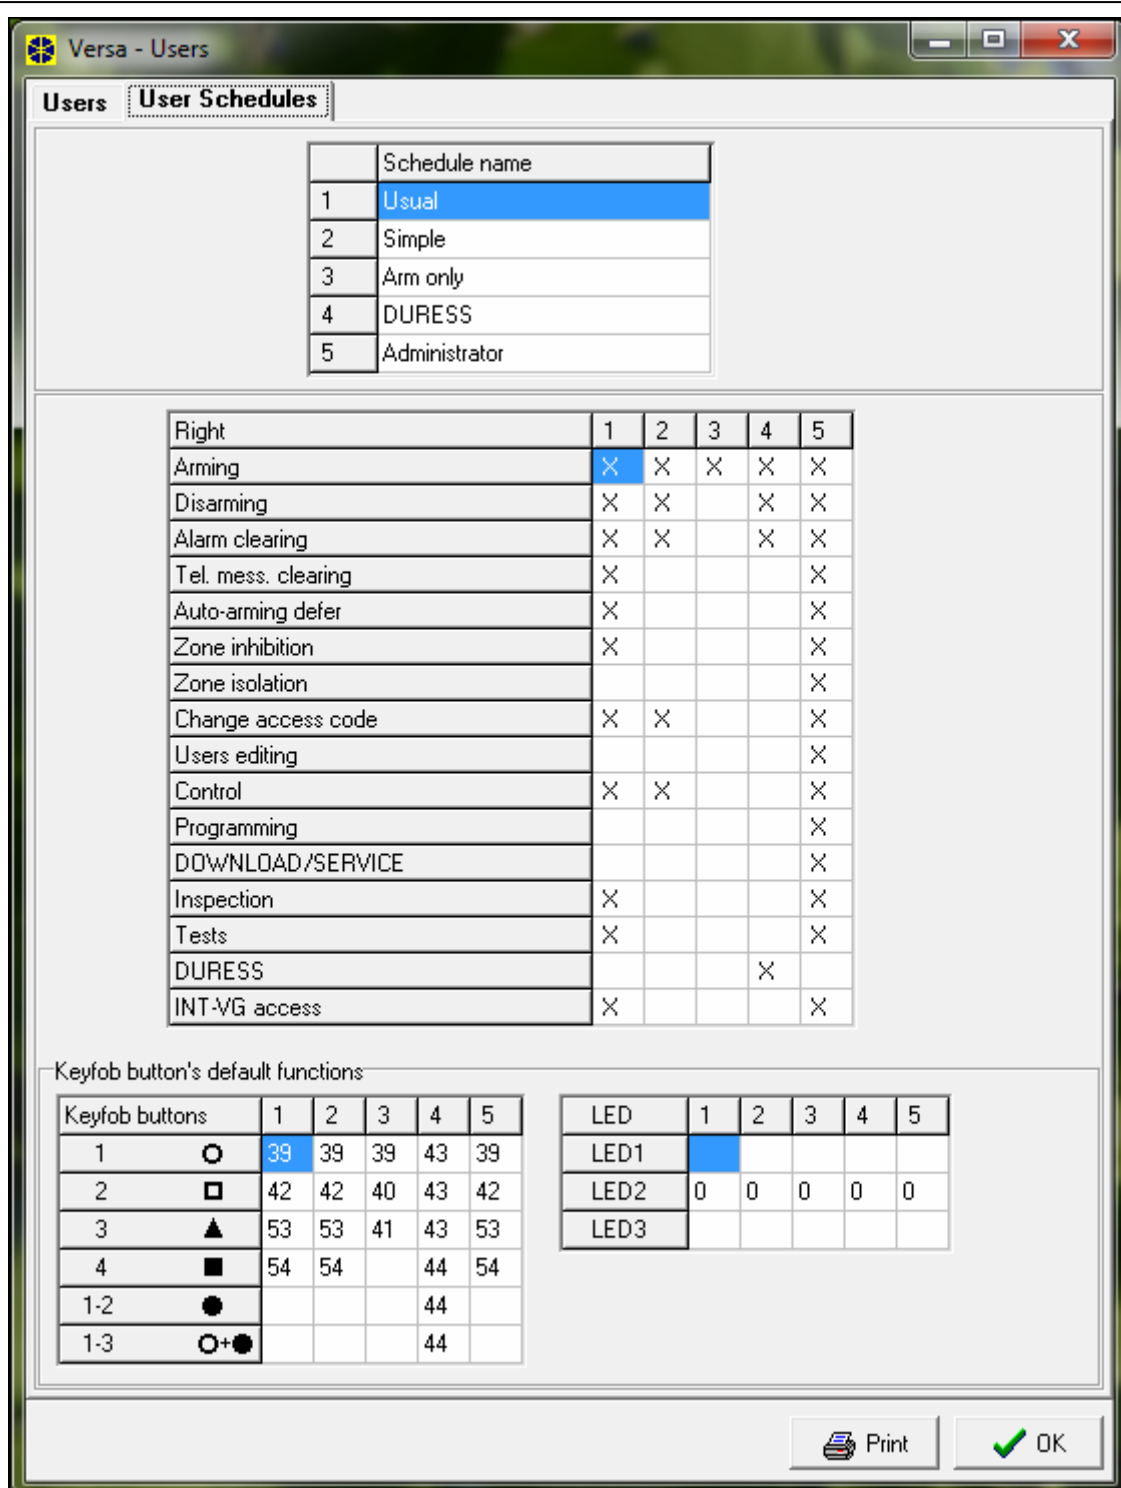

Fig. 25. DLOADX program: "User Schedules" tab in "Versa – Users" window.
- DLOADX program: “Versa – Users” window → “Users Schedules” tab (Fig. 25).